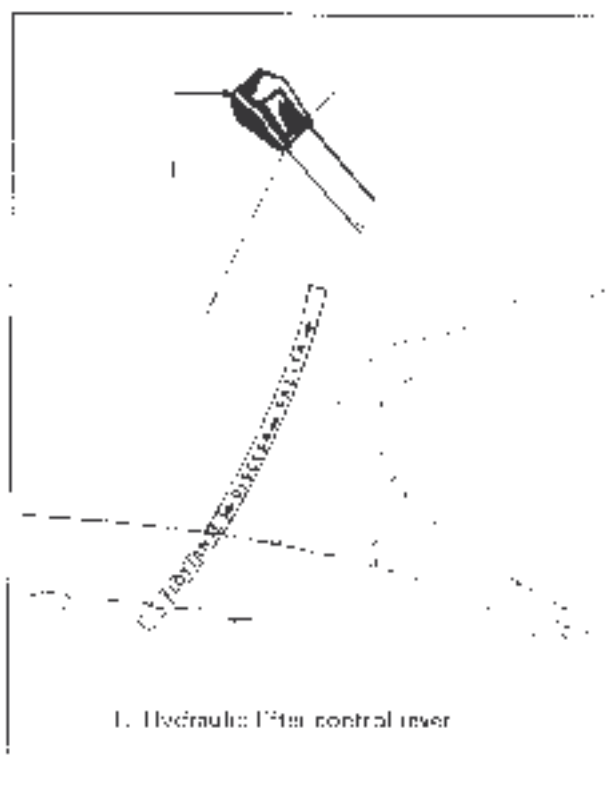

Figure 12. Control system of implement holder: hydraulic lifter
The control lever acts as follows (see fig. 12):
"Stationary" position makes it possible to load and hold the implement in any position inside or outside the ground according to the position selected with the lifter lever (fig. 12, item 1). Implement movement depends upon lever motion.